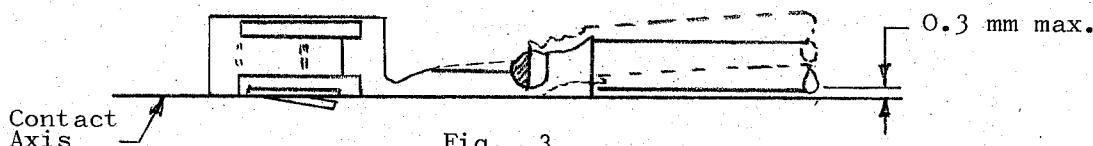

Fig. 3
- (1) After crimping, bend deformation upward and downward of contact to the contact axis, shall be within the limit including the length of cut-off tab and burrs, as specified in Fig. 3.